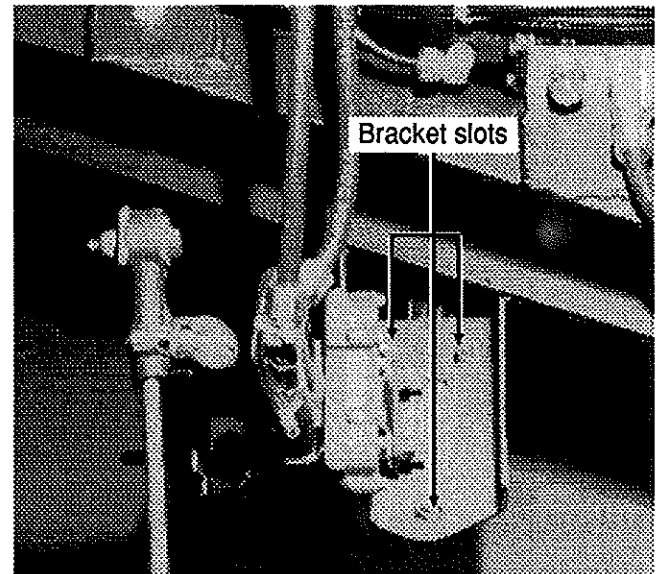

FIG. 28 - Kneeling sense switch installation
1. Disconnect the switch wiring connector, then unscrew the three bolts, washers, and nuts (see fig. 28) which attach the switch assembly to the mounting bracket.